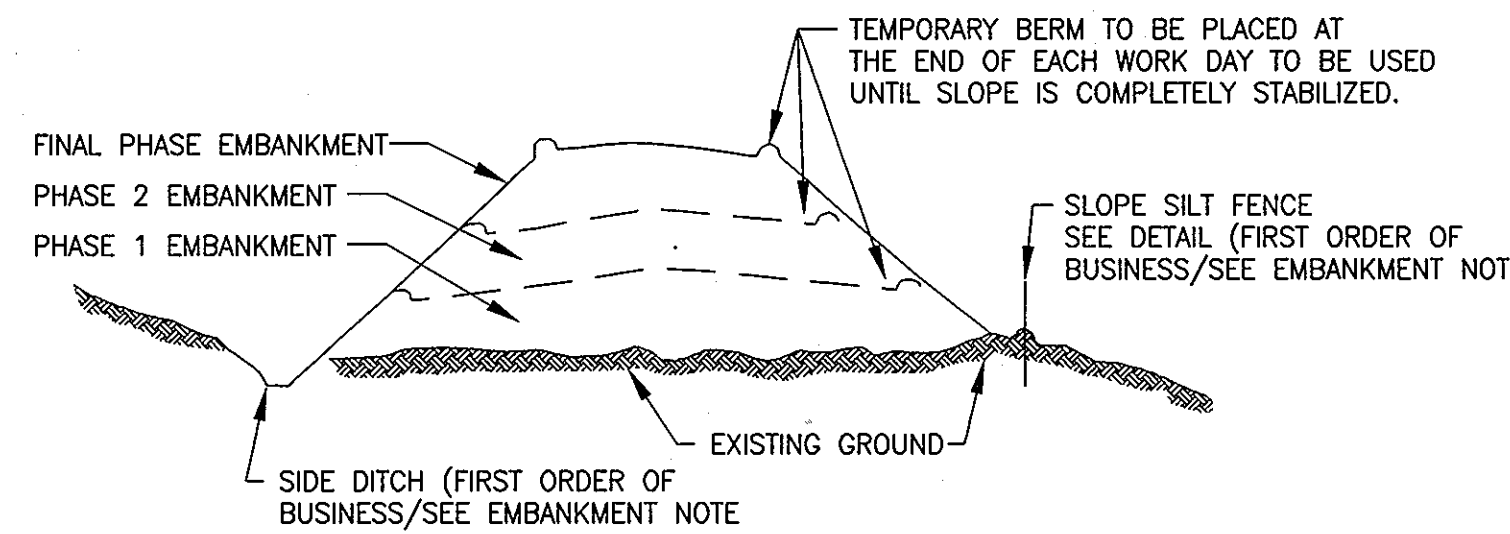

FIGURE 5: INCREMENTAL STABILIZATION - FILL
- iv. CONSTRUCTION SEQUENCE: REFER TO FIGURE 5 (BELOW).
- a. EXCAVATE AND STABILIZE ALL TEMPORARY SWALES, SIDE DITCHES, OR BERMS THAT WILL BE USED TO DIVERT RUNOFF AROUND THE FILL. CONSTRUCT SLOPE SILT FENCE ON LOW SIDE OF FILL AS SHOWN IN FIGURE 5, UNLESS OTHER METHODS SHOWN ON THE PLANS ADDRESS THIS AREA.
- i. SELECT ONE OR MORE OF THE SPECIES OR MIXTURES LISTED IN TABLE 26 FOR APPROPRIATE PLANT HARDINESS ZONE (FROM FIGURE 5) AND ENTER THEM IN THE TEMPORARY SEEDING SUMMARY BELOW, ALONG WITH APPLICATION RATES, SEEDING DATES, AND SEEDING DEPTHS. IF THIS SUMMARY IS NOT PUT ON THE PLANS AND COMPLETED, THEN TABLE 26 MUST BE PUT ON THE PLANS.
- i. SELECT ONE OR MORE OF THE SPECIES OR MIXTURES LISTED IN TABLE 25 FOR THE APPROPRIATE PLANT HARDINESS ZONE (FROM FIGURE 5) AND ENTER THEM IN THE PERMANENT SEEDING SUMMARY BELOW, ALONG WITH APPLICATION RATES AND SEEDING DATES. SEEDING DEPTHS CAN BE ESTIMATED USING TABLE 26. IF THIS SUMMARY IS NOT PUT ON THE CONSTRUCTION PLANS AND COMPLETED, THEN TABLE 25 MUST BE PUT ON THE PLANS. ADDITIONAL PLANTING SPECIFICATIONS FOR EXCEPTIONAL SITES SUCH AS SHORELINES, STREAMBANKS, OR DUNES OR FOR SPECIAL PURPOSES SUCH AS WILDLIFE OR OR AESTHETIC TREATMENT MAY BE FOUND IN USDA-SCS FIELD OFFICE TECHNICAL GUIDE, SECTION 342 - CRITICAL AREA PLANTING. FOR SPECIAL LAWN MAINTENANCE AREAS, SEE SECTIONS IV SOD AND V TURFGRASS.